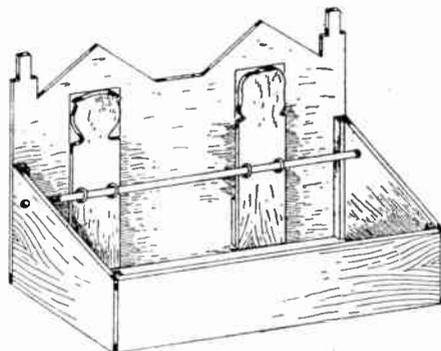

Fig. 5—Back view
Glue the two pieces of strip-wood (D) on the back face of the front $\frac{3}{8}$ in. from the side edges, and glue the 2in. lengths on the inner face of the sides $\frac{3}{8}$ in. from the back edge. The front, sides and back are now fixed with glue, and a glance at Fig. 5 shows clearly the parts in position. The length of $\frac{1}{4}$ in. dowel is next slipped in position with the two face figures in place, and the rod is secured with a little glue applied at each end.